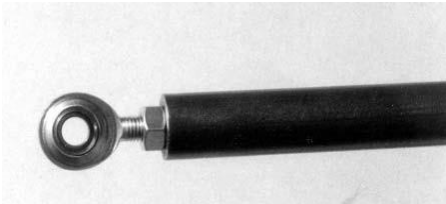

Figure 1
4. 4. Bolt in the new hood braces. First, set the length by adjusting the rod end to show 1/4" of exposed thread. (FIGURE 1) Bolt the rod ends into the stock holes at the back of the hood, with the bars lying forward. Assemble the pivot bar into the two hood braces. Put three washers between the rod end and the mount (FIGURE 2) on each bar. With the pivot bar mocked up, measure from the inside hood edge to the mount flange on the hood brace, move the braces until both sides measure the same. Clamp the mount flanges and drill out three 1/4" holes in each side. Slide the thread plate under and bolt the braces to the hood (FIGURE 3 AND 4)